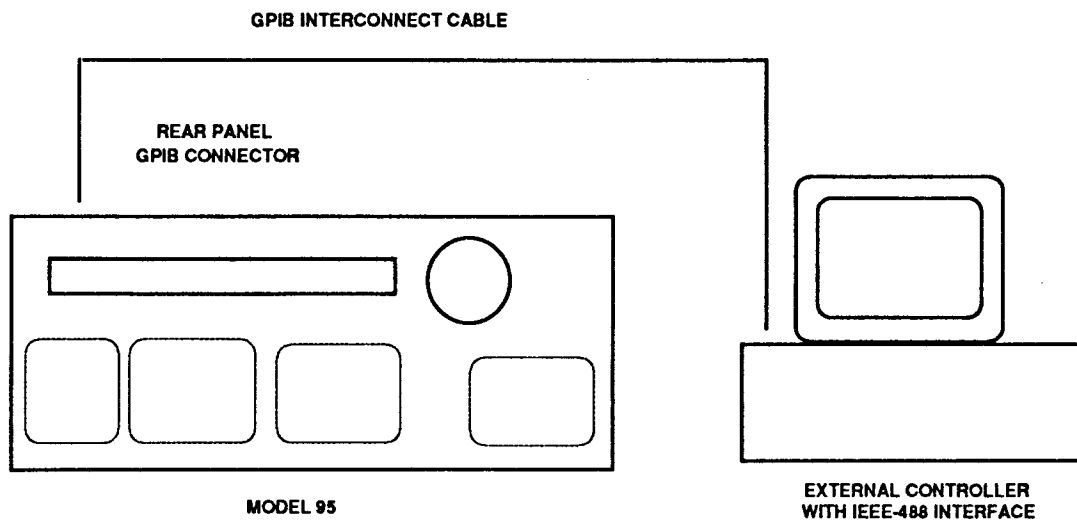

Figure 3-4. GPIB Interconnect Wiring
1. Connect a GPIB interconnect cable between the Model 95 and the controller as shown in figure 3-4. The Model 95's GPIB connector (E) is located on the rear panel of the instrument.